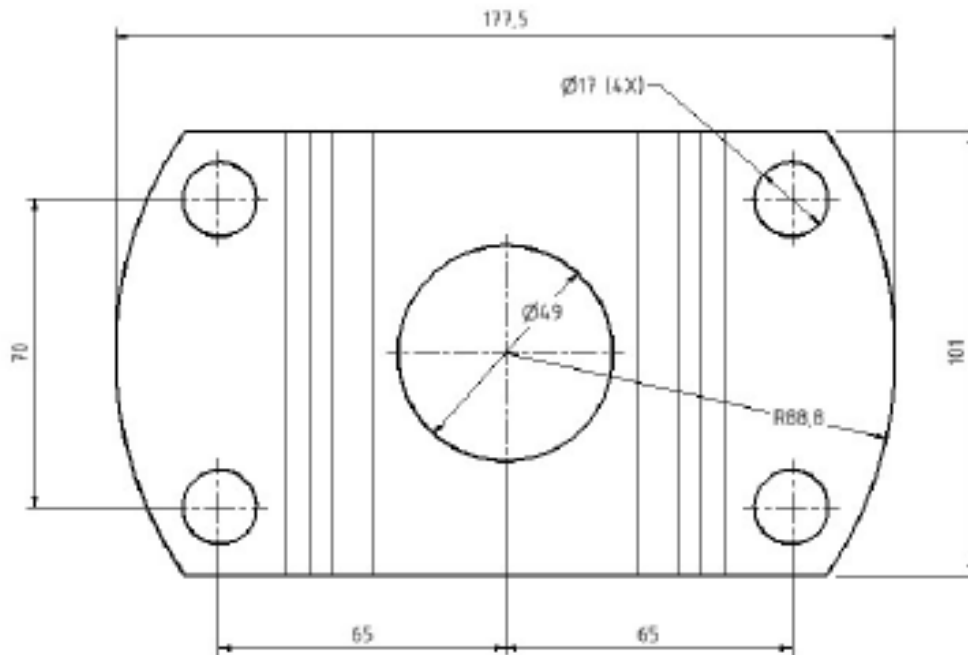

Fig. 5
- Mark the position of the drill holes using the mounting plate (fig. 5).